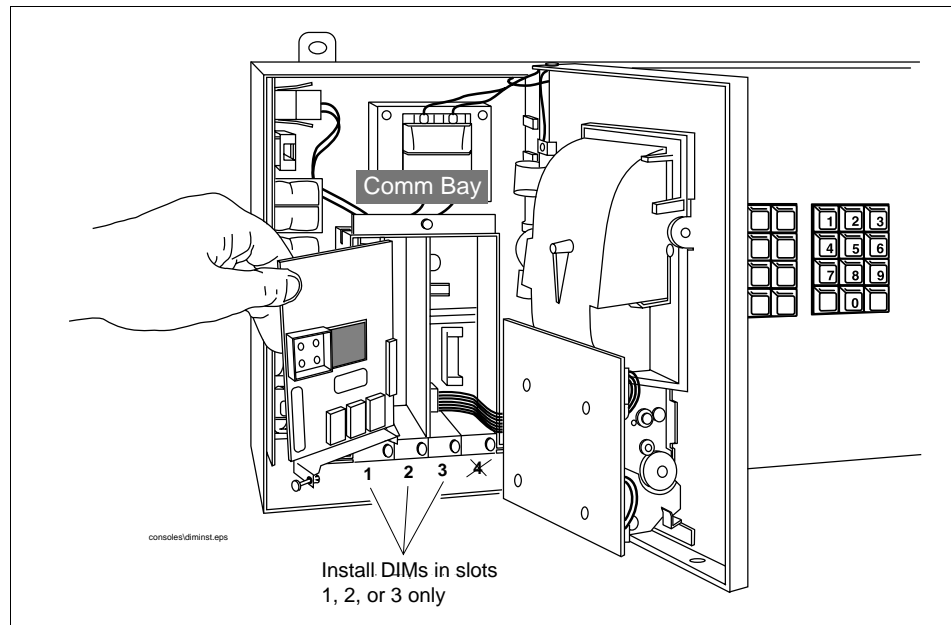

Figure 2. Dispenser Interface Module Card Installation
7. Slide the new DIM card into its slot, pushing it in firmly to seat the connector (see Figure 2 on page 5).
Figure 2 shows placement of a Tokheim DIM Card into a permissible Comm Bay slot (1, 2, or 3).